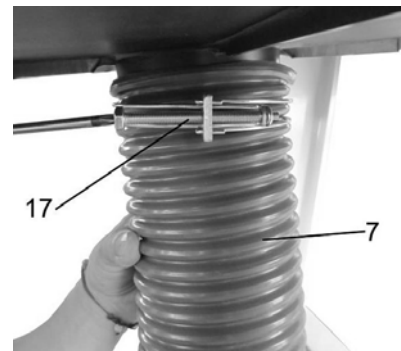

Fig. 7: Hose fitting
Step 5: Insert a hose fitting (17) over the suction hose (7) as far as it will go to the suction connection of the device and fix it with the hose clamp according to fig. 7.